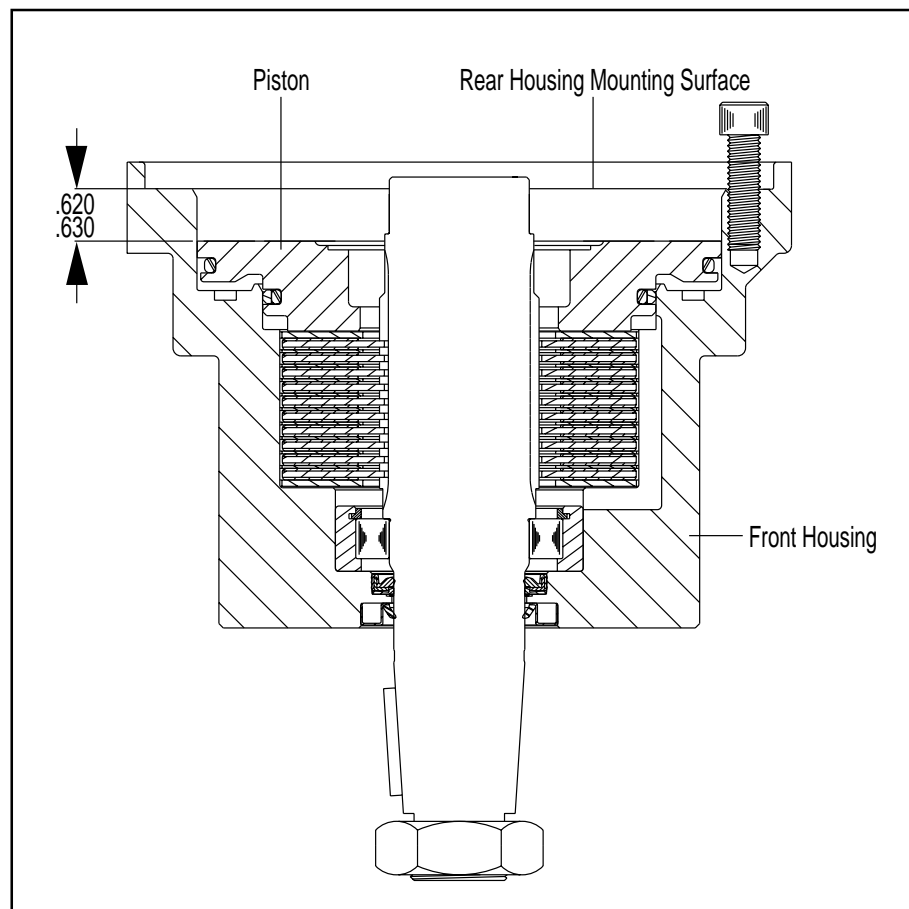
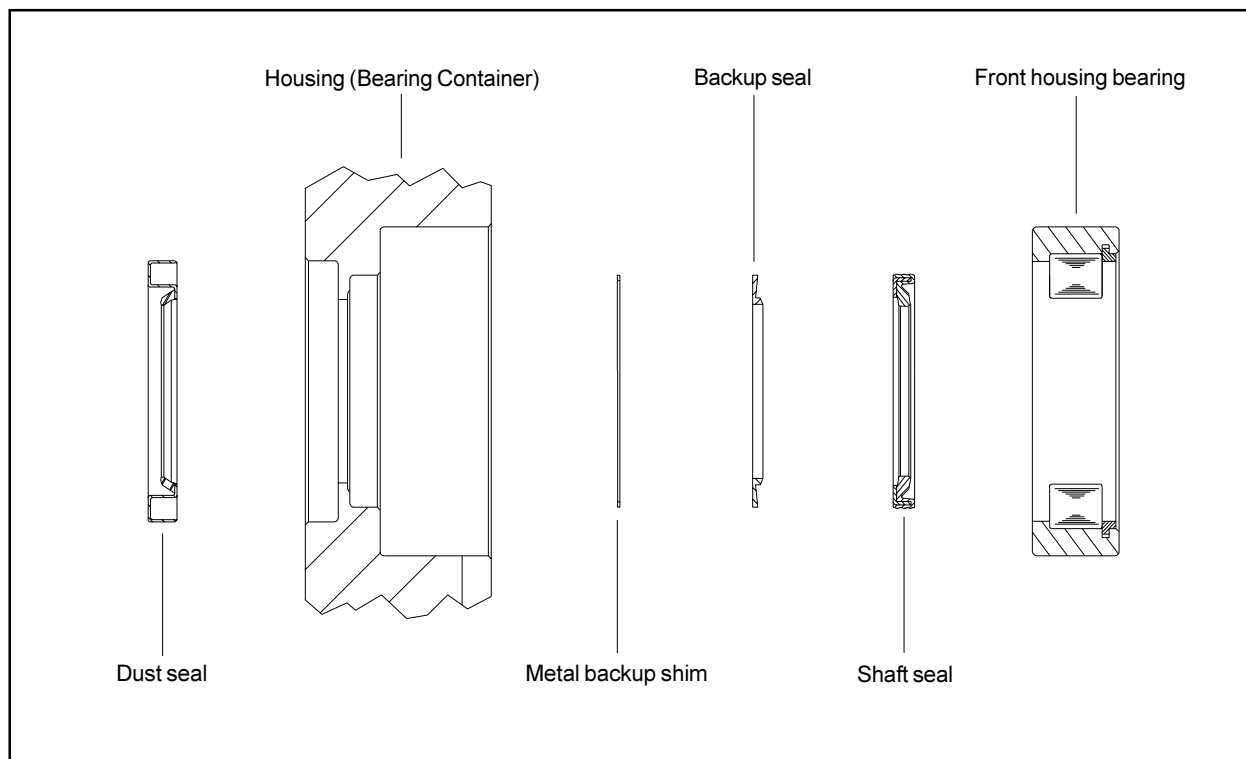

FIGURE 1
FIGURE 2
- A) To aid in reassembly of the motor, make a "V" shaped set of lines from the endcover to the housing using either paint or a marker. With shaft facing down, secure motor in vise by clamping on to housing (15).
- B) Loosen and remove seven bolts (34) holding motor assembly together. Remove endcover (32) carefully as piston (30) and spring (31) may fall out. If piston does not come out, carefully pry piston (30) out of endcover (32) and lay aside. Remove O-Ring seal (13) and backup seal (14) from endcover and discard seals. Remove spring (31) and lay aside.
- C) Lift commutator container and commutator (29) from motor and lay aside. Place commutator on a flat, clean surface with the seal (12) facing up. Place the tip of a small screwdriver on the seal (12) and gently tap until opposite side of seal lifts from groove. Remove seal (12) and discard.
- D) Remove manifold (28) and rotor set (27). Remove all seals (10 & 11) from components and discard. (Caution- Do not allow rolls to drop from rotor assembly (27) when removing rotor assembly from motor.) Remove drive link (26) from motor and lay aside.
- E) Put the housing assembly into an arbor press with the shaft facing down. Lower the press to apply downward pressure on the rear housing (23) and lock the press in place. Loosen and remove the eight capscrews (24) holding the rear housing (23) to the front housing (15). Slowly release the press to allow spring pressure to push the rear housing (23) from the front housing (15). Remove the rear housing (23) and lay aside. (NOTE: Bearing (16) and spacer shim(s) (22) may fall out of rear housing (23).)
- F) Remove springs (21) from front housing (15) and lay aside. Remove housing (15) from arbor press and place on a clean, flat surface with output end of shaft (35) facing up. To remove piston (20), friction disks (17) and disk stampings (18 & 19), firmly grasp output end of shaft with a rag. Raise housing assembly a few inches above work surface and firmly strike housing assembly on work surface until piston and disks drop from housing assembly. Lay piston (20) and disks (17, 18 & 19) aside. Remove shaft (35) from housing (15) and lay aside. (NOTE: If possible, maintain disk stackup to aid it reassembly)
- G) Remove front housing bearing (16) from housing and lay aside. Pry shaft seal (4) and backup seal (3) from front housing (15) and discard. Remove metal backup shim (2) from front housing (15) and discard. Remove dust seal (1) from housing and discard.
- I) Place housing (15) on a flat surface with pilot of housing facing up. Install dust seal (1) making sure that lip on seal faces up. Place front housing (15) in vise with pilot on housing facing down. Install metal backup shim (2) into housing bore. Install backup seal (3) into housing bore making sure that lip on seal faces up. Install shaft seal (4) into housing bore making sure that lip on seal faces up. For correct seal orientation, see Figure 2.
- J) If servicing a 710 Series, install bearing shims (not shown in exploded view) in housing followed by front housing bearing (16). If servicing a DR motor, install front housing bearing (16) into housing making sure that the snap ring that retains bearing rolls faces up. Making sure not to cut seal lip with shaft keyway, install shaft (35) into housing (15).
- K) Install one disk stamping (18) into housing making sure that lugs or splines engage those in housing (15). Install one friction disk (17) engaging splines on disk with those on shaft. Alternate disk stampings and friction disks until all disks except thick disk stamping (19) are installed. Install thick disk stamping (19) lastly on top of disk assembly.
- L) Install small O-Ring seal (5) and large O-Ring seal (7) into corresponding grooves in piston (20). Install small seal (6) and large seal (8) in corresponding grooves over O-Ring seals. Thoroughly coat seals and sealing surfaces of housing (15) with clean oil. With large O.D. side of piston (20) facing up, install piston (20) into
housing (15) and evenly press piston down making sure not to pinch seals. **(If the disks and disk stampings are going to be replaced, the stack up on the new disks must be between .620 and .630. Use Figure 1 for measuring reference.)**
- M) Install springs (21) on top of piston. Install O-Ring Seal (9) in groove in rear surface of housing (15). If servicing a 710 series, install rear bearing (16) in rear housing (23). If servicing a 610 series, and rear shaft bearing (16) and spacer shim(s) (22) came out of rear housing (23), reinstall at this time by placing spacer shim(s) (22) into rear housing (23). Install rear shaft bearing (16) making sure that snap ring that retains bearing rolls faces out. Place rear housing (23) onto front of housing (15) lining up bolt holes. While holding motor assembly together, remove motor assembly from vise and place in arbor press. Press down on rear housing (23) until it contacts front housing (15) and lock press. Install eight capscrews (24) and torque to 45 ft. lbs.
- N) If servicing a 610, install drive link spacer (25) in shaft if motor originally came with one. (NOTE: 710 Motors do not use spacer) Install drive link (26) into end of shaft with tapered end facing up. Place body seals (10) in grooves in both sides of rotor (27). Place rotor (27) onto housing (15) with side of rotor with chamfer in splines facing housing (15). Place manifold (28) over rotor (27) with seal groove side up. Install manifold seal (11).
- O) Install the commutator seal (12) into the commutator (29) with the metal side facing out. Use finger pressure to press the seal down flush with the surface of the commutator. Place the commutator container onto the manifold (28) and then place the commutator onto the protruding end of the drive link (26) making sure that the seal side faces up.
- P) Install the remaining body seal (10) in the groove in the face of the endcover (32). Install piston spring (31) into endcover (32), then the white backup seal (14) followed by the O-Ring seal (13). Lining up the alignment pin with the hole in the endcover, press piston (30) into the endcover (32). While holding the piston (30) in the endcover, lower the endcover assembly onto the motor. Check to make sure that the endcover ports are in their original position.